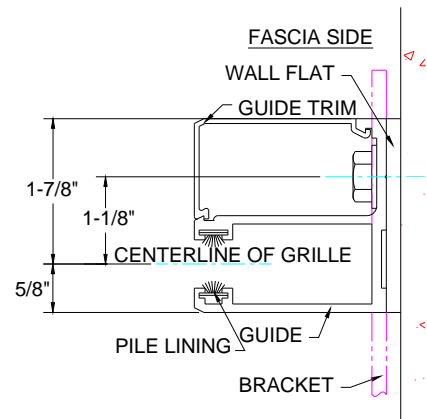

Fig. 4
4. Place the wall flat and guide on the jamb according to Fig. 4 at the edge marks on the jamb (Step #3). Check for plumb.
4. Place the guide on the jamb according to Fig. 4 at the edge marks on the jamb (Step #3). Check for plumb.